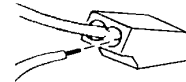

Fig. 3
Step 2: Simply insert the black source supply wire into the quick connector with the black wire coming from the fixture (Fig. 3).
Step 3: Insert the white source supply wire into the quick connector with the white wire coming from the fixture (Fig. 3).